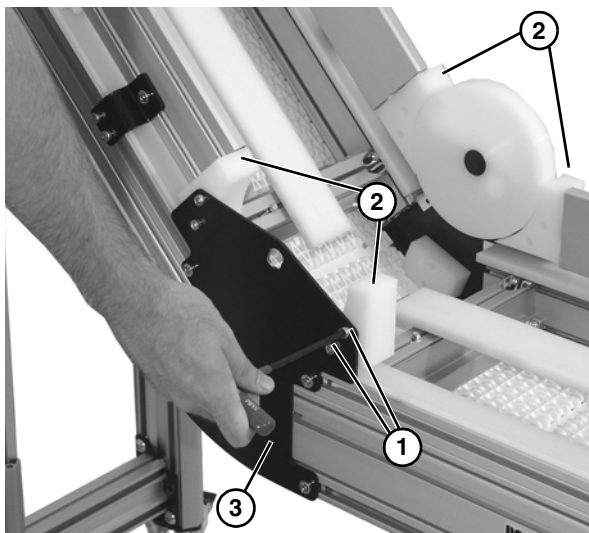

Figure 64
2. Remove two socket cap screws (**Figure 64, item 1**) for all four hold down guards (**Figure 64, item 2**) on side of lower knuckle assembly (**Figure 64, item 3**).